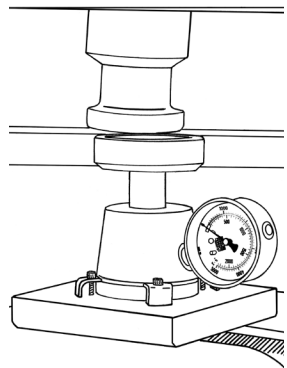

FIGURE 3
- Now adjust the trailer and the kingpin up using the landing gear on your trailer until the kingpin is 7" above the saddle of the hitch, one to two inches above the fifth-wheel scale (See Figure 3).